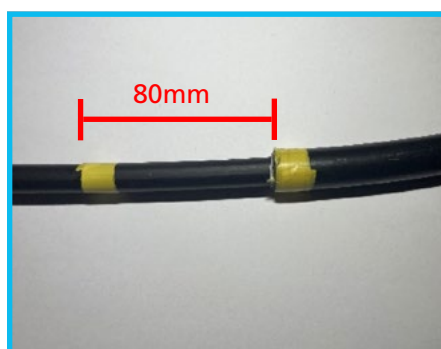

Figure 6
2. Remove the water blocking tape and mark the inner sheath at 80mm from the ring cut **[figure 6]**.